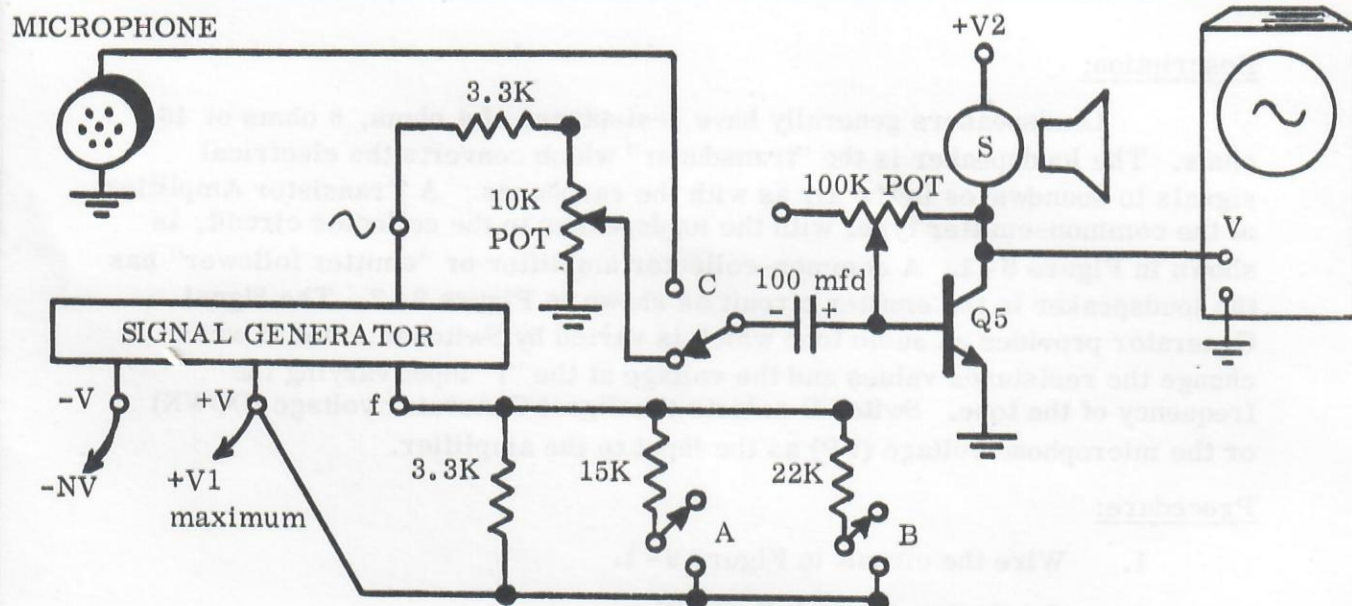
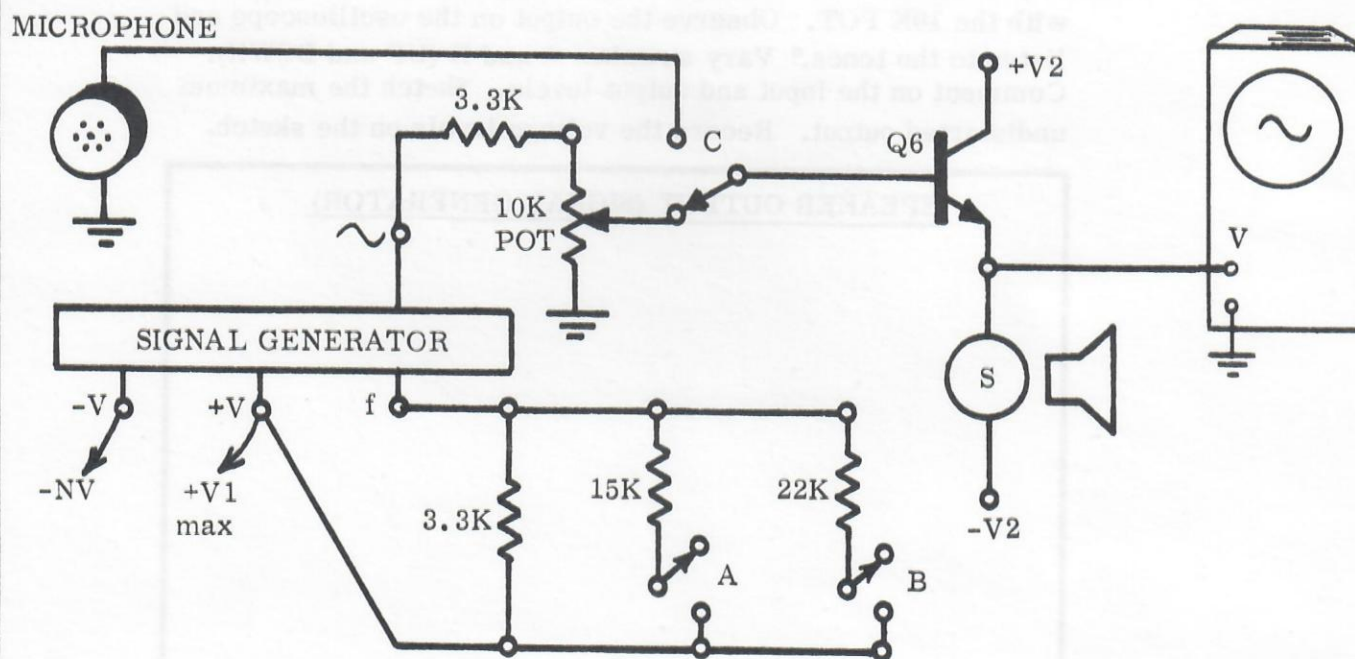

Figure 9-1 Common Emitter Amplifier
Figure 9-2 Common Collector Amplifier
Loudspeakers generally have resistances of 4 ohms, 8 ohms or 16 ohms. The loudspeaker is the "transducer" which converts the electrical signals to soundwaves in the air as with the earphones. A Transistor Amplifier of the common-emitter type, with the loudspeaker in the collector circuit, is shown in Figure 9-1. A common-collector amplifier or "emitter follower" has the loudspeaker in the emitter circuit as shown in Figure 9-2. The Signal Generator provides an audio tone which is varied by Switches A and B which change the resistance values and the voltage at the "I" input varying the frequency of the tone. Switch C selects the Signal Generator voltage (DOWN) or the microphone voltage (UP) as the input to the amplifier.
1. Wire the circuit in Figure 9-1.